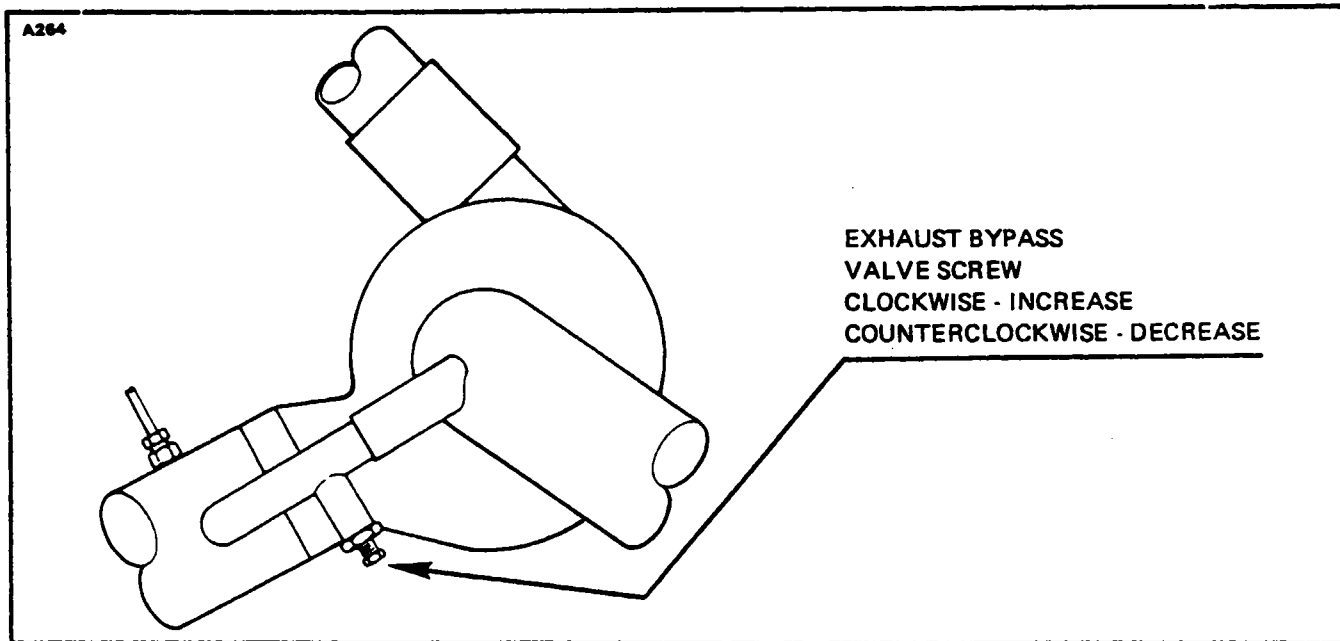

Figure 8-36. Exhaust Bypass Valve Screw
b. Exhaust Bypass Check: Ascertain that the exhaust bypass adjusting screw has from eight to nine threads showing below the jam nut. This screw is preset at the factory and should not require any adjustment, unless it is known that critical altitude is not correct; in this case, use procedure given in Step k. (Refer to Figure 8-36.)